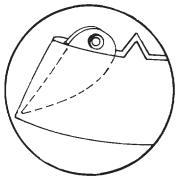

Fig. 8-7
6. Turn the collar right side out and gently push the points out. Never use scissors to do this. Use a point turner, a small tool you can buy at a fabric store. (Fig. 8-7) Press the collar flat, being sure to roll the seam to the undercollar side so it will not show on the finished collar.